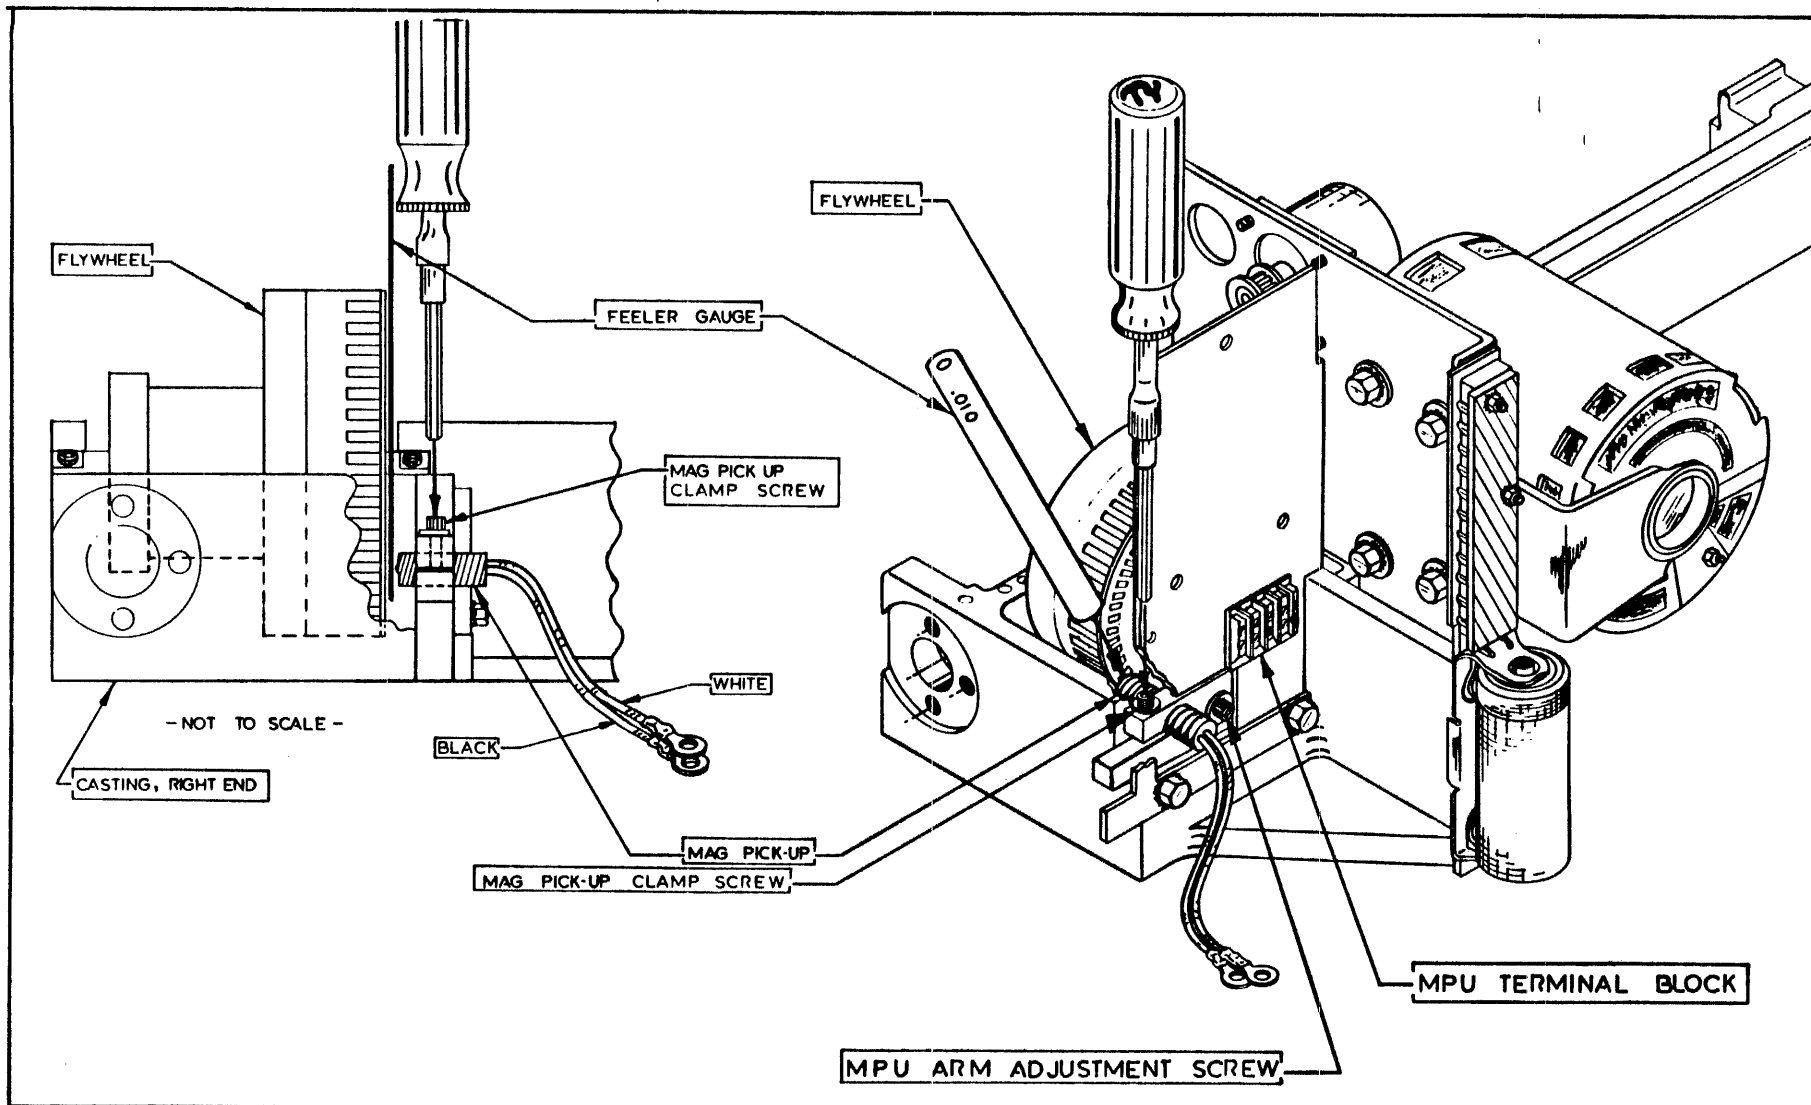

Figure 99 Adjusting the Magnetic Pickup Gap
- b. Insert a 0.010 feeler gauge between the pickup and timing disk (**Figure 99**). Adjust the gap between the MPU and the timing disk to 0.010 inches by rotating the MPU arm. Tighten the clamp screw.
- b. Disconnect the MPU leads from terminals 1 and 2 on the adjacent terminal strip (Figure 99).